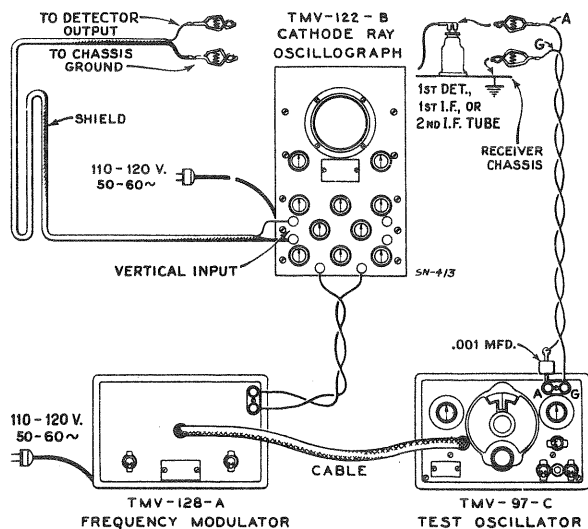
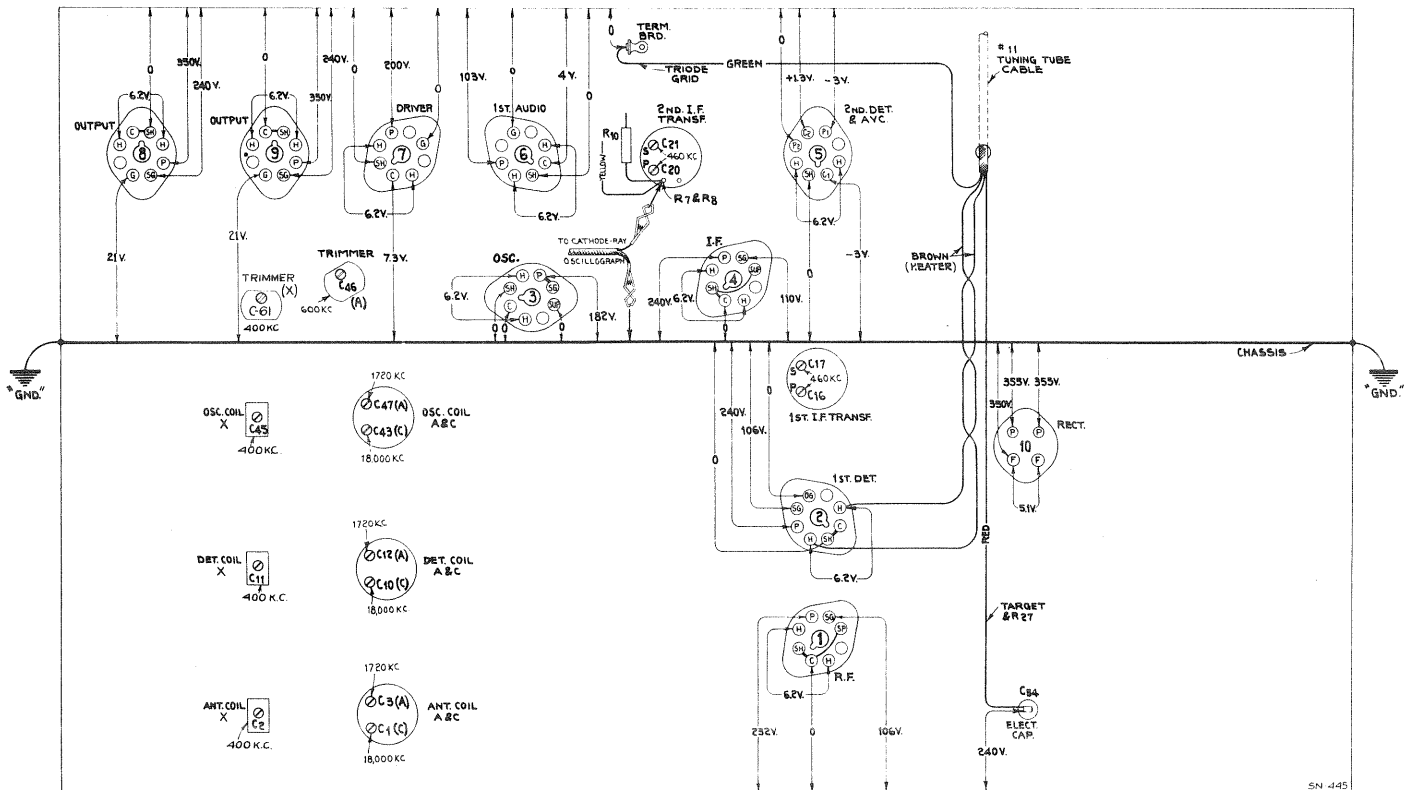

Figure 5—Alignment Apparatus Connections
Figure 6—Trimmer Locations and Radiotron Socket Voltages
The four trimmers of the two i-f transformers are located as shown by Figure 6. Each must be aligned
to a basic frequency of 460 kc. The last transformer must be aligned firstly and the first transformer aligned secondly. For such a process, it is necessary to feed the output of the Full Range Oscillator to the stages in their order of alignment, adjusting the trimmers of each transformer and observing the effect at the second detector output on the Cathode-Ray Oscillograph. The proper point of connection of the Oscillograph is with its vertical "high" input terminal attached to the juncture of R-7 and R-8, as illustrated in Figure 6, and with the "0" or ground terminal to the chassis. The "Ext. Sync." terminals of the Oscillograph should be connected to the Frequency Modulator as shown by Figure 5. A .001 mfd. capacitor installed in series with the Oscillator "Ant." lead will prevent the voltages of the stage under alignment from becoming upset. The vertical "A" amplifier should be "On" for the ensuing adjustments
- (b) Attach the output of the test Oscillator between the control grid cap of the RCA-6K7 i-f tube and chassis ground as shown typically by Figure 5. Tune the Oscillator to 460 kc. and set its modulation switch to "On." Regu-
- (c) The Frequency Modulator should then be placed in operation and interconnected with the Full Range Oscillator by means of the special shielded patch cord. Figure 5 shows the proper arrangement. Set the Frequency Modulator sweep range switch to its "Lo" position and turn the Oscillator modulation switch to "Off." Change the timing control of the Oscillograph to "Ext." and place the range switch to its No. 2 position. Then carefully shift the tuning of the Oscillator so as to increase its frequency, until two distinct and similar waves appear on the Oscillograph screen and become exactly co-incident at their highest points. This condition will be found to occur at an Oscillator setting of approximately 540 kc. The curves will be identical in shape but appearing in reversed positions. Adjust the frequency control of the Oscillograph in order to cause the waves to conform with the above requirement and to make them remain motionless on the screen. This will require a setting of approximately $\frac{1}{2}$ clockwise rotation of the frequency control. The trimmers C-20 and C-21 should then be re-adjusted so that the two curves move together and become exactly coincident throughout their lengths, maintaining the maximum amplitude at which this condition can be brought about.
Locations of the various antenna, detector and oscillator coil trimmers are shown by Figure 6. The test Oscillator should be removed from connection with the i-f system and its output connected to the antenna-ground terminals of the receiver. No changes are to be made in the connections of the Oscillograph
Oscillator and Oscillograph made in accordance with Figure 5. Turn the modulation switch of the Oscillator to "Off" and retune the Oscillator (increase frequency) until the forward and reverse waves show on the Oscillograph and become coincident at their highest points. Adjust the trimmers C-47, C-12 and C-3 again, setting each to the point which produces the best coincidence and maximum amplitude of the wave images.
The voltage values indicated from the Radiotron socket contacts to chassis on Figure 6 will serve to assist in the location of causes for faulty operation. Each value as specified should hold within $\pm 20\%$ when the receiver is normally operative at its rated supply voltage. Variations in excess of this limit will usually be indicative of trouble in the basic circuits. The voltages given are actual operating values and do not allow for inaccuracies which may be caused by the loading effect of a voltmeter's internal resistance.